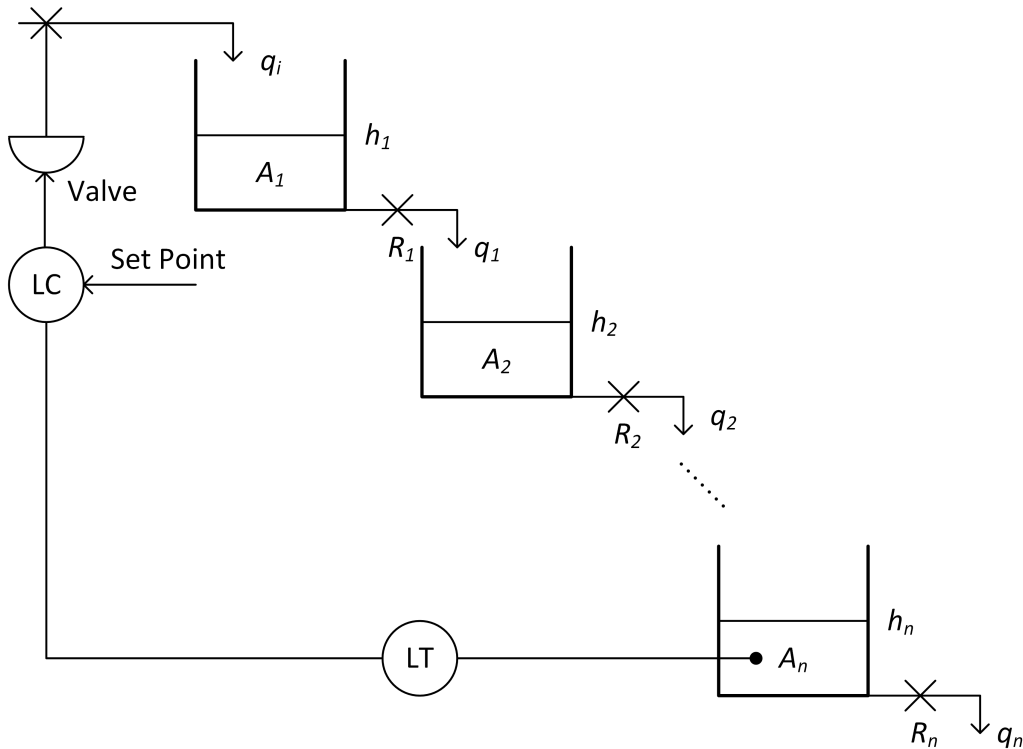

Figure 2: Schematic of the non-interacting tanks
2. **Non-interacting Tanks** Consider the non-interacting tanks system depicted in Fig. 2. Let $A_k(m^2)$ denote the cross-sectional area of tank k, $q_k(m^3/min)$ and $q_{k-1}(m^3/min)$ its infow and outflow, respectively, and $R_k(min/m^2)$ its outflow valve resistance. Assuming that the outflow is linearly dependent to tank water height, $q_k = h_k/R_k$. Assume also that the actuating valve and the level transmitter are ideal; that is, level transmitter can give instantaneous measurements and actuator can supply the desired water flow without any limits or delay.